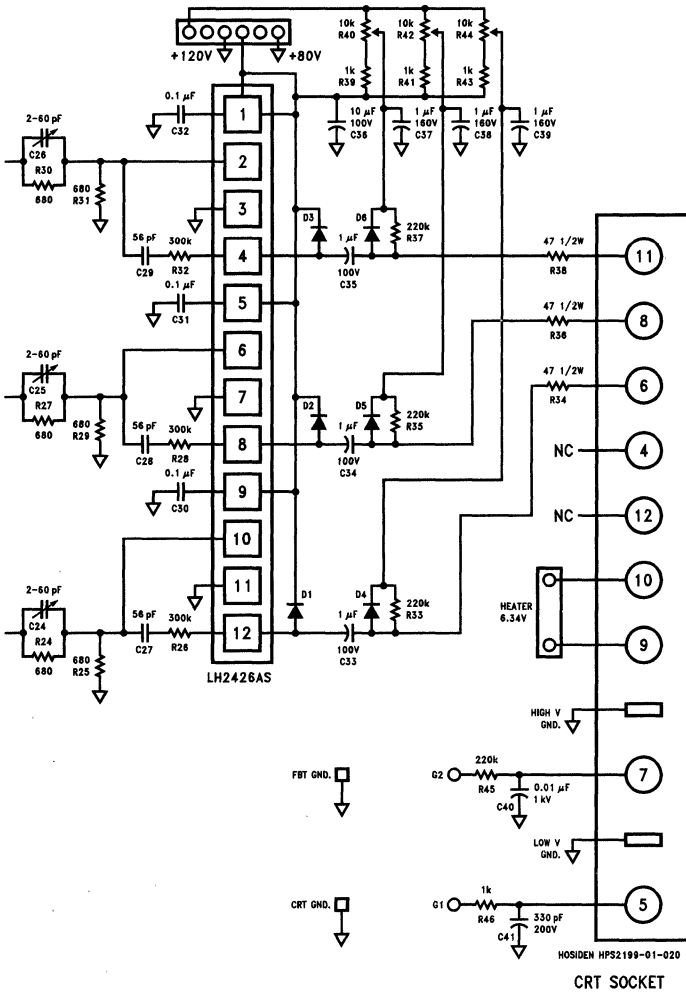

FIGURE 8. (Continued)
When driving the LM1204 from a 75 $\Omega$  video source, the cable is terminated with 75 $\Omega$  to minimize reflections caused by transmission line effects. However, the input impedance of LM1204 is capacitive and is also affected by the stray capacitance of the PC board. Thus the input impedance is a function of frequency. This changes the impedance of the cable termination. This can introduce overshoot and ringing in LM1204's pulse response. A 100 $\Omega$  resistor in series with the blocking capacitor at the video input will minimize overshoot and ringing (see Figure 8). The value of the resistor is empirically determined. 100 $\Omega$  is a good starting value.
**FIGURE 8. Complete circuitry for an RGB CRT video board using the LM1204 and LH2426AS. The video output signals from LH2426AS are AC coupled and diode clamped to greater than 80V.**